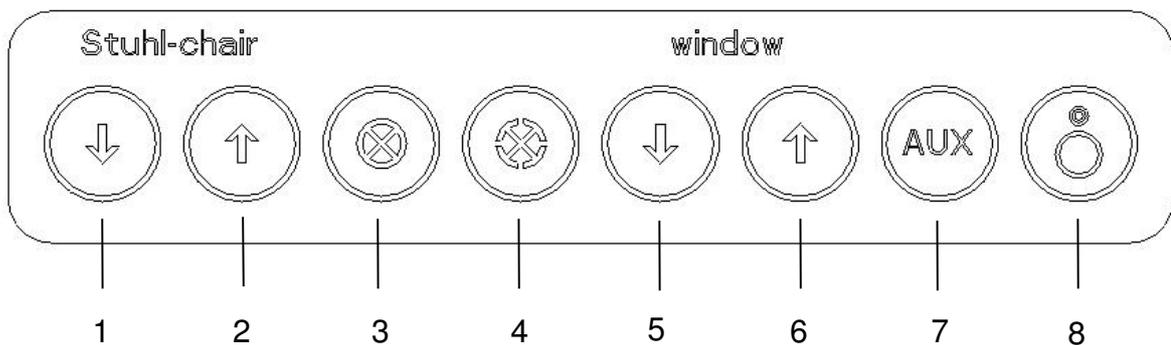

Figure 8: control panel
- Please connect the cable of mains connection with the power socket (1)
- Press the power switch on „I“ (2)
- Press the power switch on the device table, the control lamp is green, figure 8 (position 8)
The engage switch with green control light is on the working device table, have a look at figure 8 (position 8). The refraction unit is from stand-by to operational as soon as the engage switch has been pressed and the lamp is green. This also applies to already installed equipment or analysis of additional components. The survey instruments on the telescope table are automatically ready for use when the table position 1 and table position 2 are achieved. Besides the power switch located on the tabletop other switching elements.